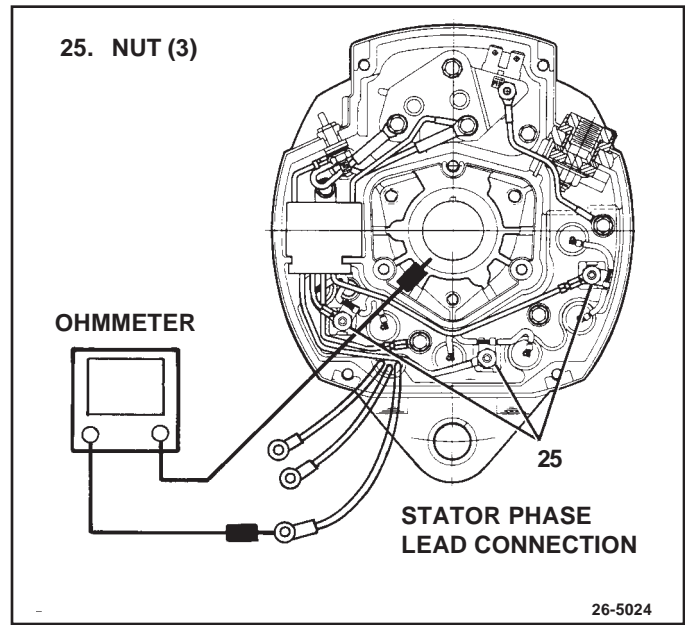

Figure 16. Checking Stator Windings
- Disconnect the 3 stator phase leads from the diode junction studs by removing nuts (25). Use continuity check function of ohmmeter to check stator windings. (See Fig. 16) Place one meter lead on one of the stator phase lead connectors and check for continuity to each of the other two stator leads. There should be continuity to both. If not, one or more of the stator coils is open; replace the stator as described later in this section.